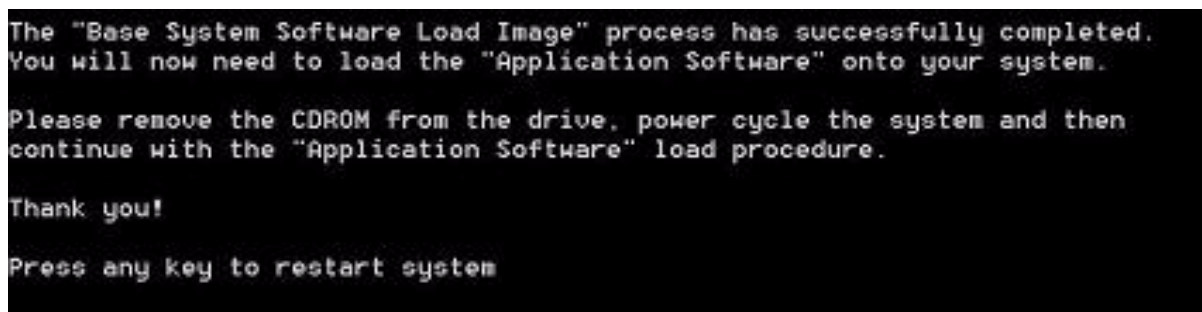

Figure 3-22 Update Successful
- 8.) After finish updating system CD, take out "System Software CD" from CD-RW, prepare to upgrade "Application Software".Refer to Figure 3-22 on page 3-29.
- 9.) After finish updating system CD, take out "System Software CD" from CD-RW, prepare to upgrade "Application Software".Refer to Figure 3-22 on page 3-29